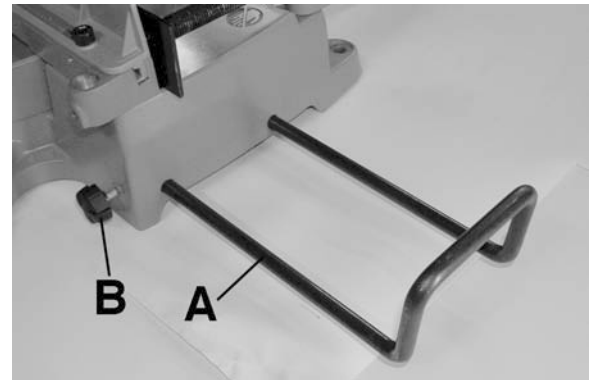

Figure 7
Before using this miter saw, it is recommended to use the extension wings to support your workpiece. Simply loosen extension wing lock knob (A) Fig.7, pull out the extension wing (B) Fig.7 and secure it in place by tightening the extension wing lock knob (A). Repeat for the other extension wing.